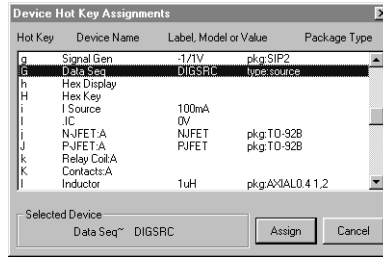

Figure 4.6. Use this dialog box to assign or reassign Hotkeys to devices.
- 2 Click the **Hotkey** button to display the dialog box in Figure 4.6. Hotkeys are listed alphabetically along with the devices that are currently assigned to them.